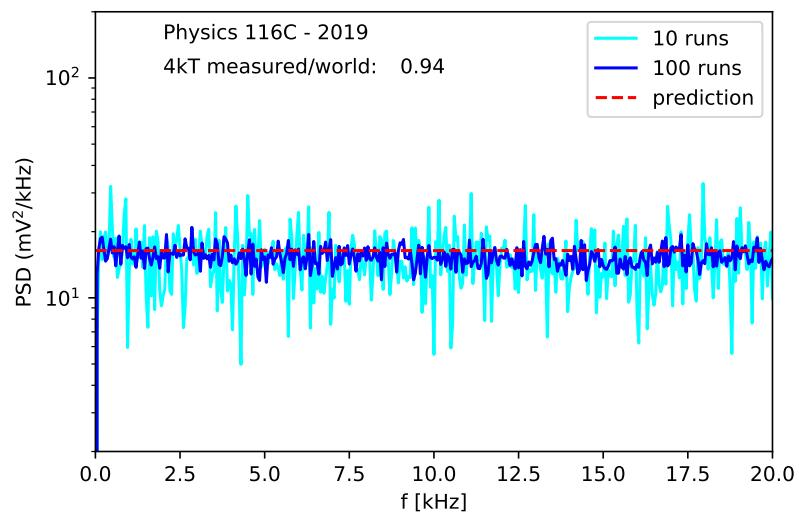

Figure 21: The flat response of Johnson Noise and measured value of $4kT$.
- The flat frequency spectrum of Johnson Noise, as far out as you can, as in Fig. 21